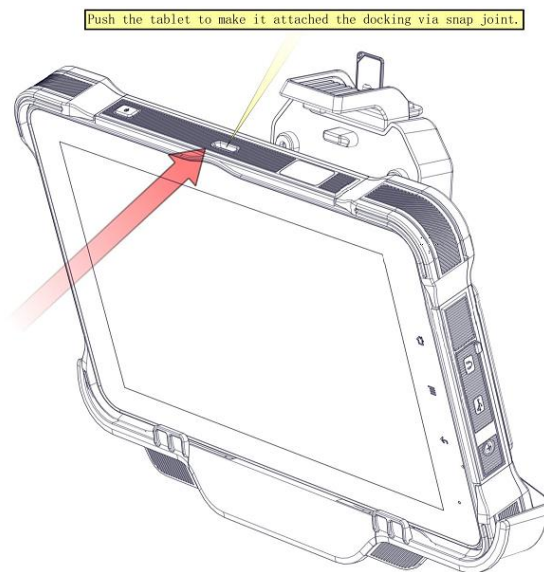

Fig. 4-4
4.Push 10 Pro to make it attached the docking via snap joint, as Fig. 4-4 shown.